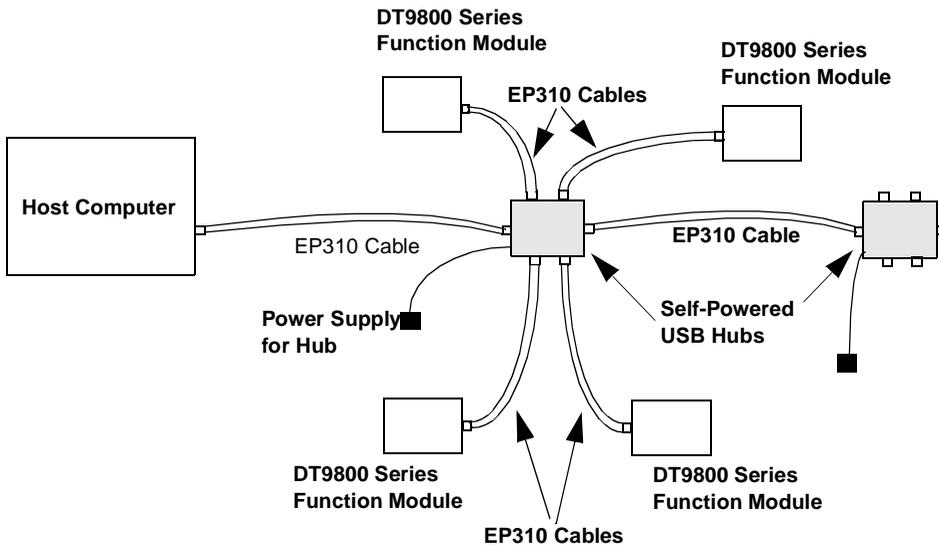

Figure 3: Attaching DT9800 Series Function Modules to the Host Computer Using Self-Powered USB Hubs
9. Repeat steps 1 to 3 until you have attached the number of hubs (up to five) and function modules (up to four per hub) that you desire. Refer to Figure 3.